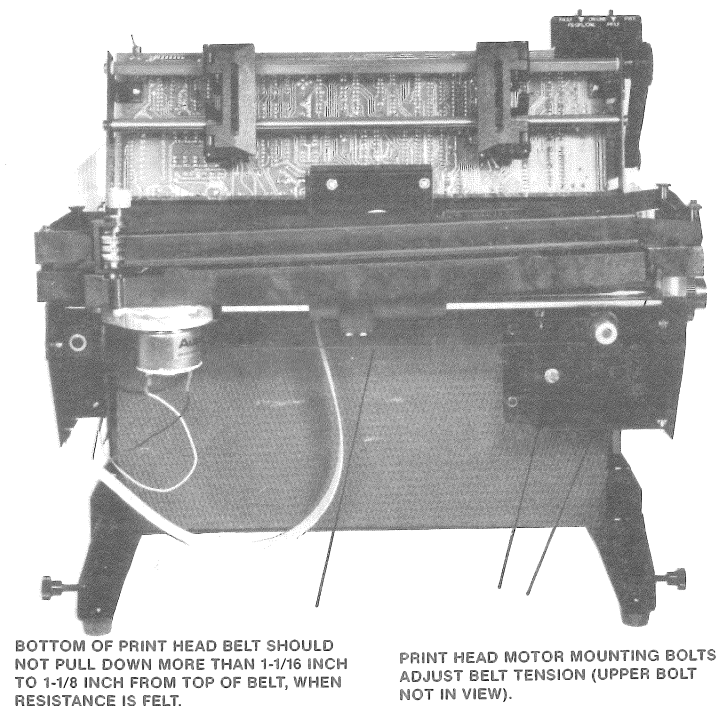

Figure 5-2
5.2.2.2 Paper Drive Belt Tension Adjustment (See Figure 5-2). Tension of the drive belt between the paper stepper motor and paper pinfeed tractor assembly should remain fairly taut, but not tight. Belt tension can be checked by removing the printer's cover and applying very slight finger pressure at the tension check point shown in Figure 5-2. Belt tension is correct if the belt can easily be depressed 1/8 to 1/4 inch. If adjustment is required, loosen the two stepper motor adjusting screws, reposition the stepper motor so that belt tension is correct, then tighten the adjusting screws.